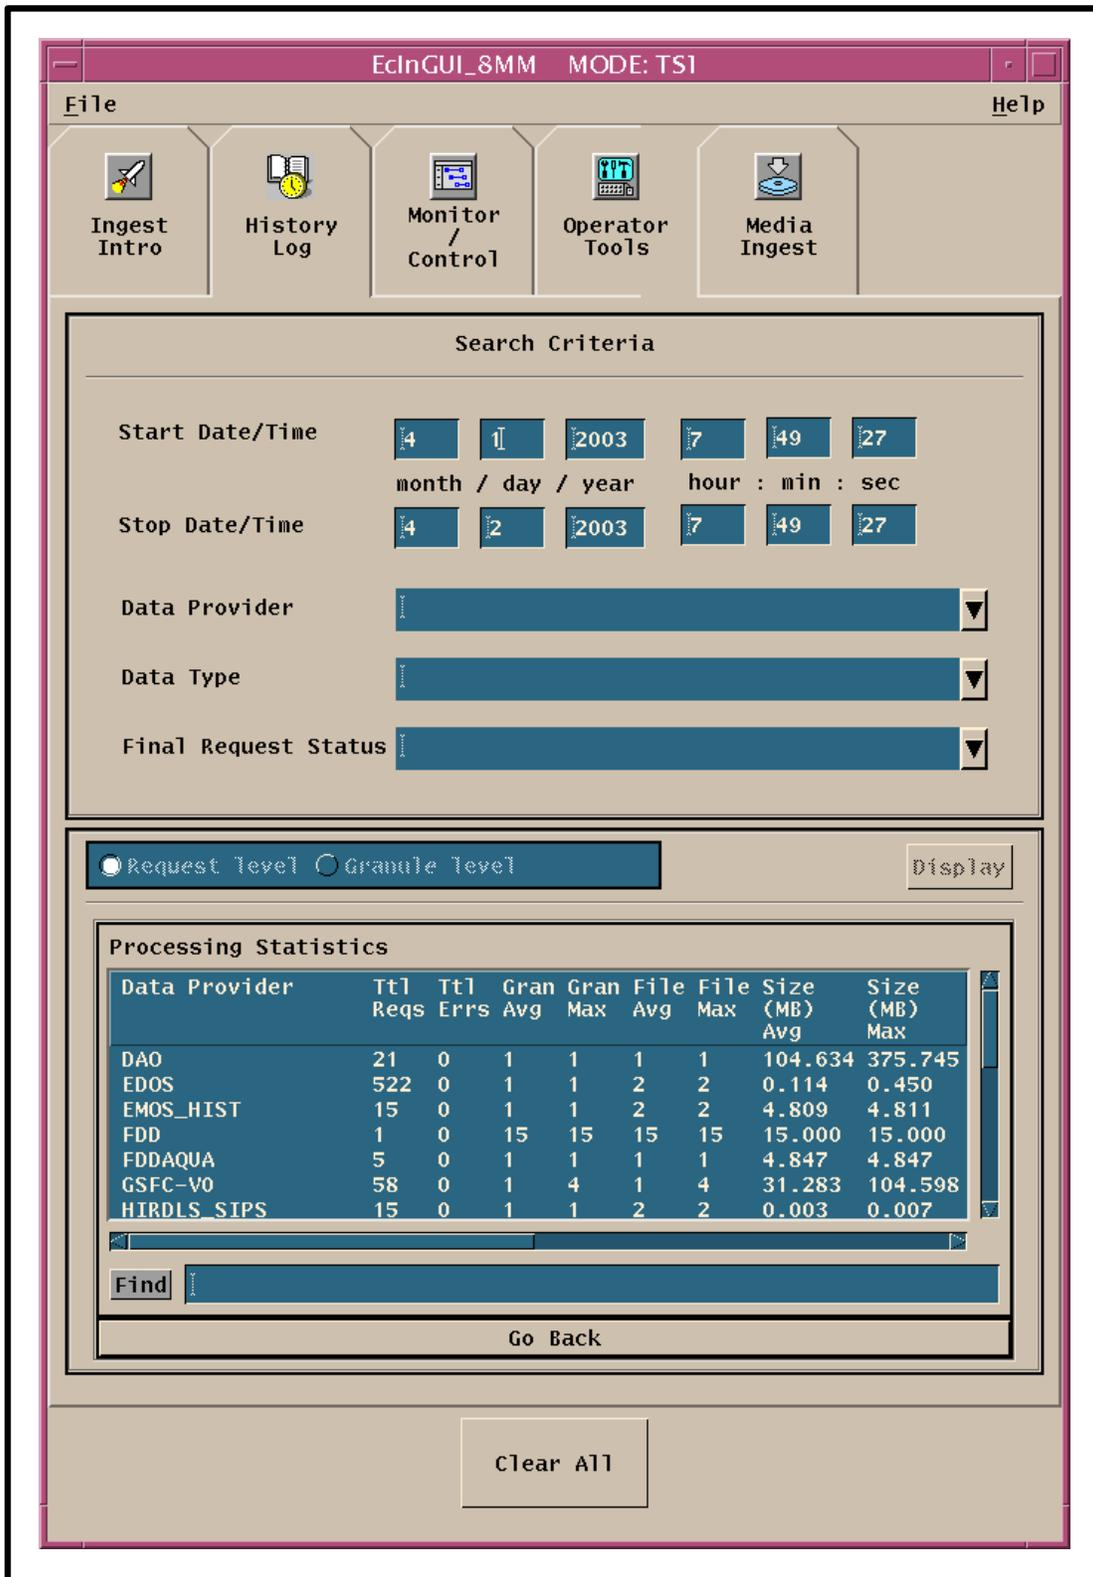
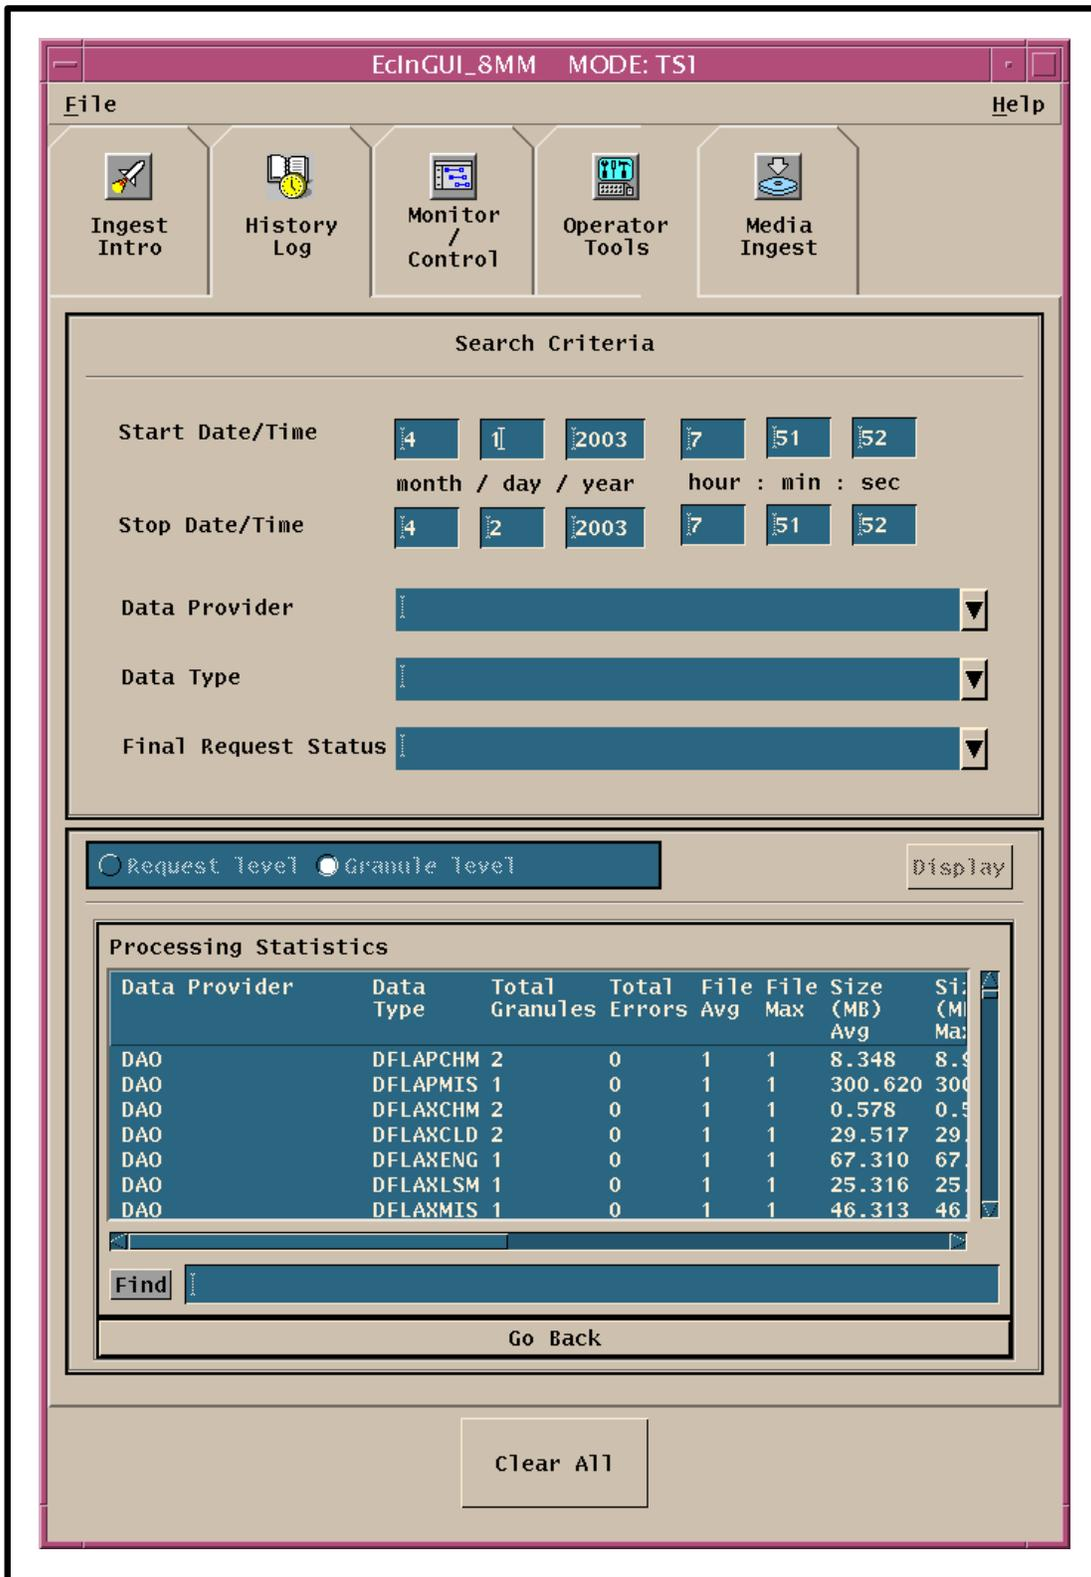

Figure 18. Request Level Summary Report (ECS Ingest GUI History Log)
Figure 19. Granule Level Summary Report (ECS Ingest GUI History Log)
- The **Request level** Summary Report (Figure 18) provides Ingest request processing statistics.
- **Size (MB) Avg** [average request size in Megabytes].
- **Size (MB) Max** [maximum request size in Megabytes].
- The **Granule level** Summary Report (Figure 19) includes the following types of information organized by data provider and Earth Science Data Type (ESDT):
- **Size (MB) Avg.**
- **Size (MB) Max.**